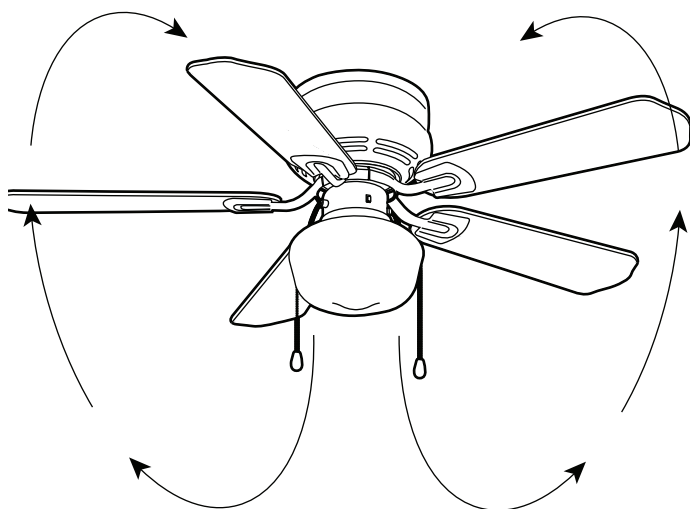

Figure 17
**Warm weather – (Forward)** A downward airflow creates a cooling effect as shown in Figure 17. This allows you to set your air conditioner on a higher setting without affecting your comfort.